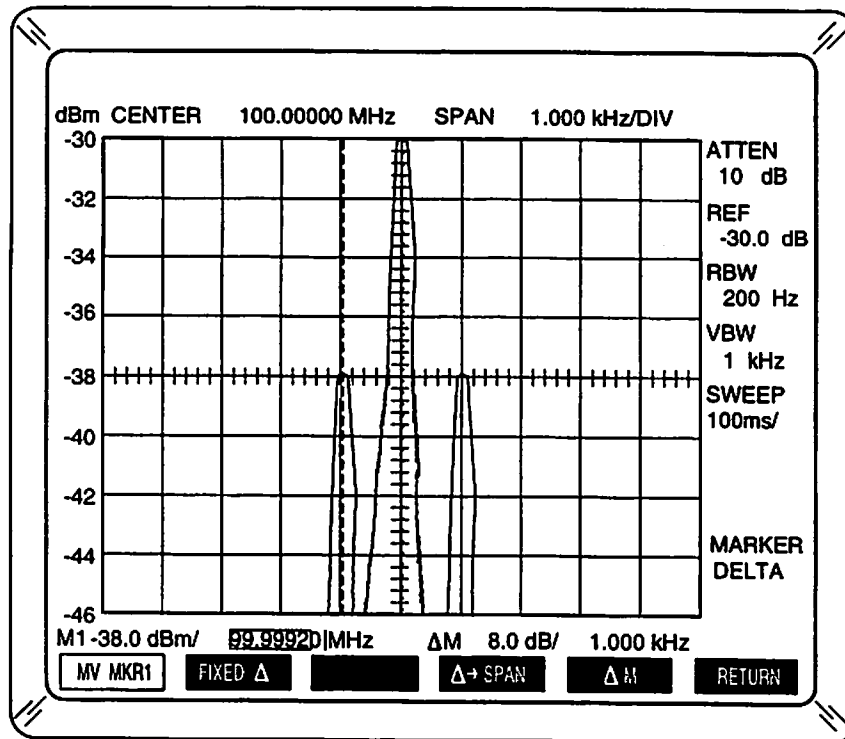
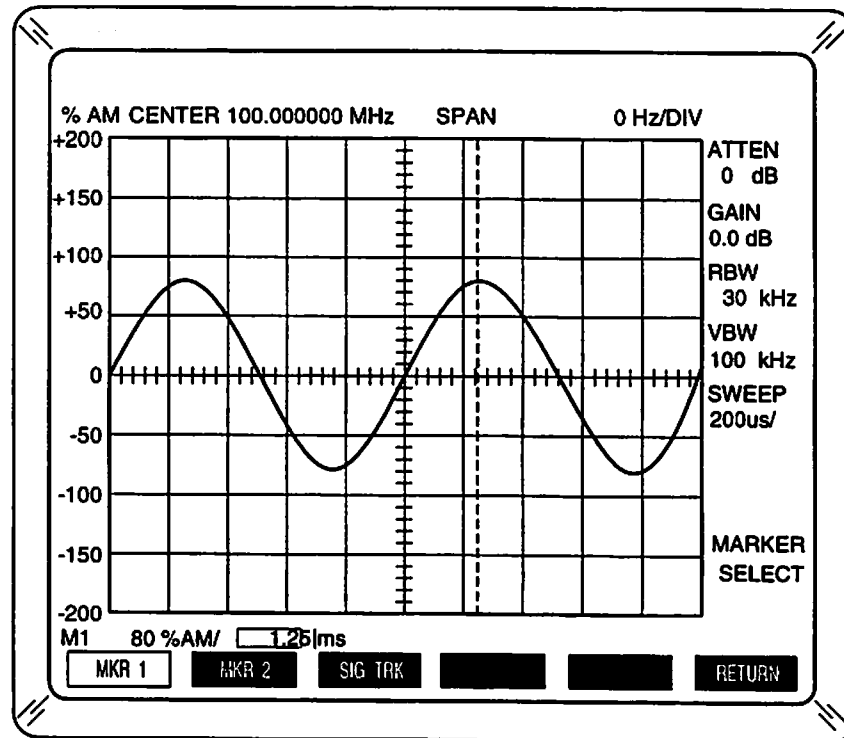
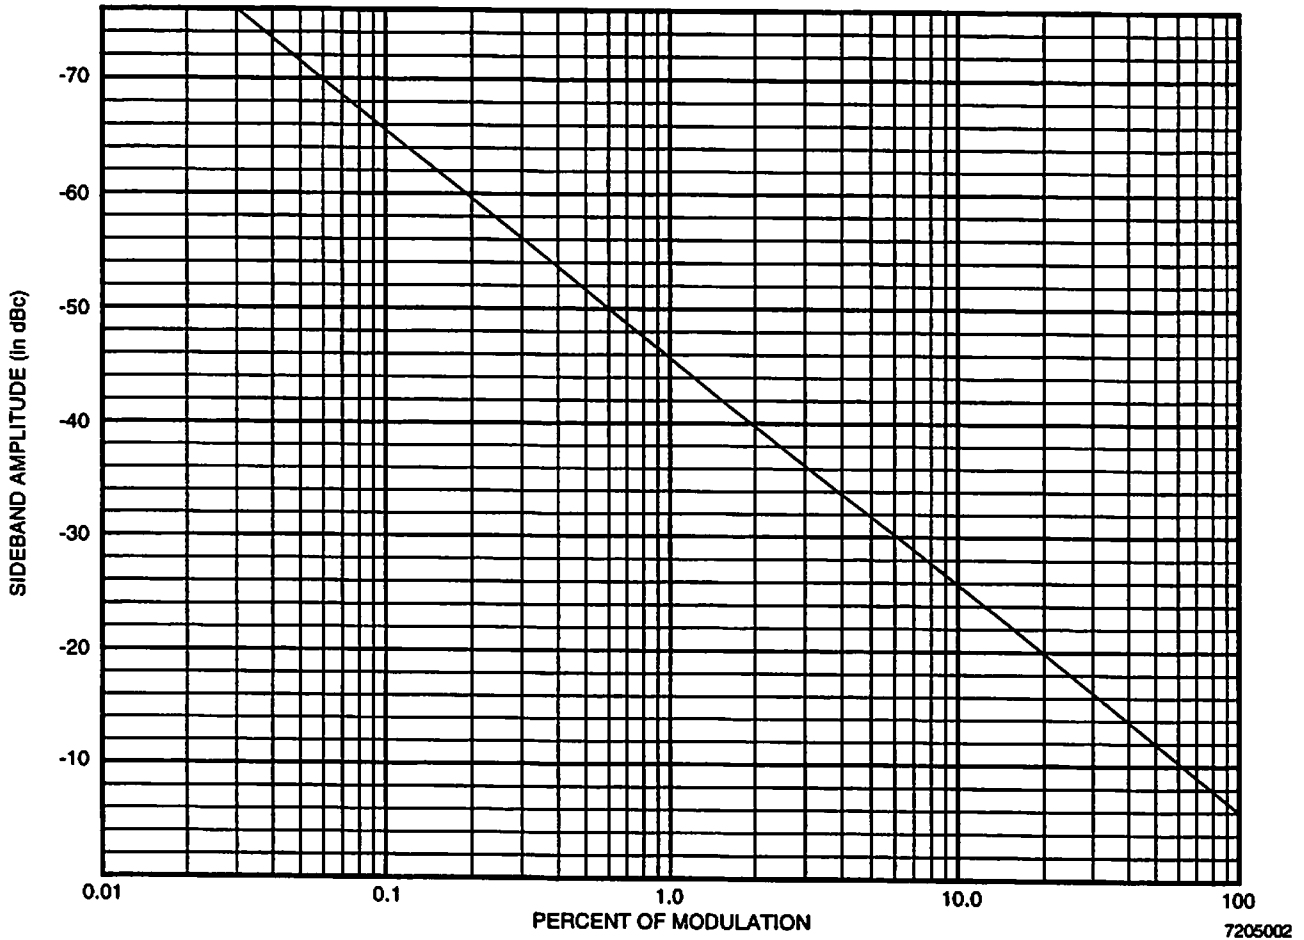

Figure 4-9 AM Measurements
Figure 4-10 AM1 Demodulation Screen
Figure 4-11 AM Percentage
9. Note AM percentage. Refer to Figure 4-10.
25. Use amplitude difference indicated in ΔM field to find AM percentage using chart in Figure 4-11.
NOTE: Figures 4-9 and 4-10 show a 1 kHz tone modulating a 100 MHz carrier. The AM1 Demodulation Screen (Figure 4-10) indicates 80% modulation. Modulation level is 8 dB below the carrier level (Figure 4-9). The chart in Figure 4-11 also indicates 80% modulation for an 8 dB amplitude difference.